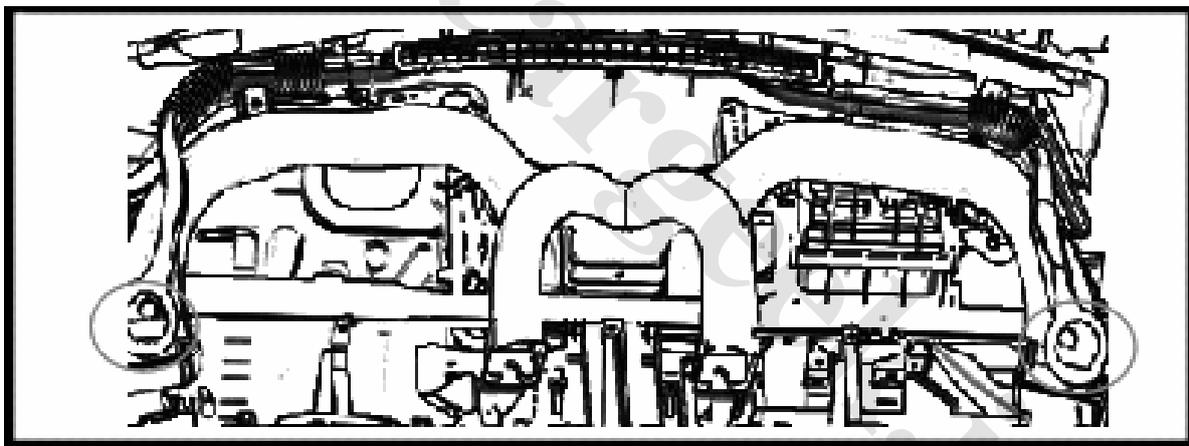

Figure 6-15
(1) Disassemble upper air duct of the housing
- ① Remove the cover board of dashboard (please refer to the disassemble method of dashboard)
- ② Disassemble guard staples of the two sides of the air duct, as shown in Figure 6-15.